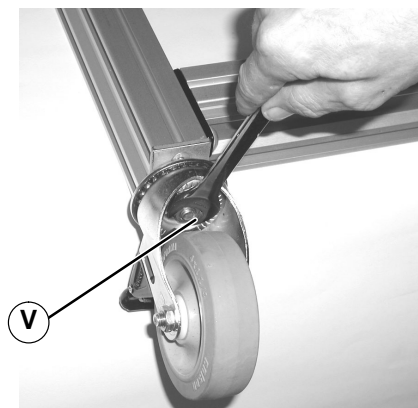

Figure 7
8. Tighten lock nut (V of Figure 7) to 30 ft-lb (40 N-m).